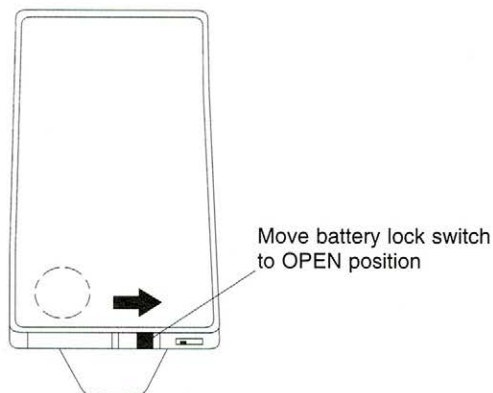

Figure 5-5. Unlocking Battery Carrier
2. Move the battery lock switch to the OPEN position (towards the outside edge of the card), as shown in Figure 5-5. The battery lock switch keeps the battery carrier locked so that it cannot be opened accidentally.